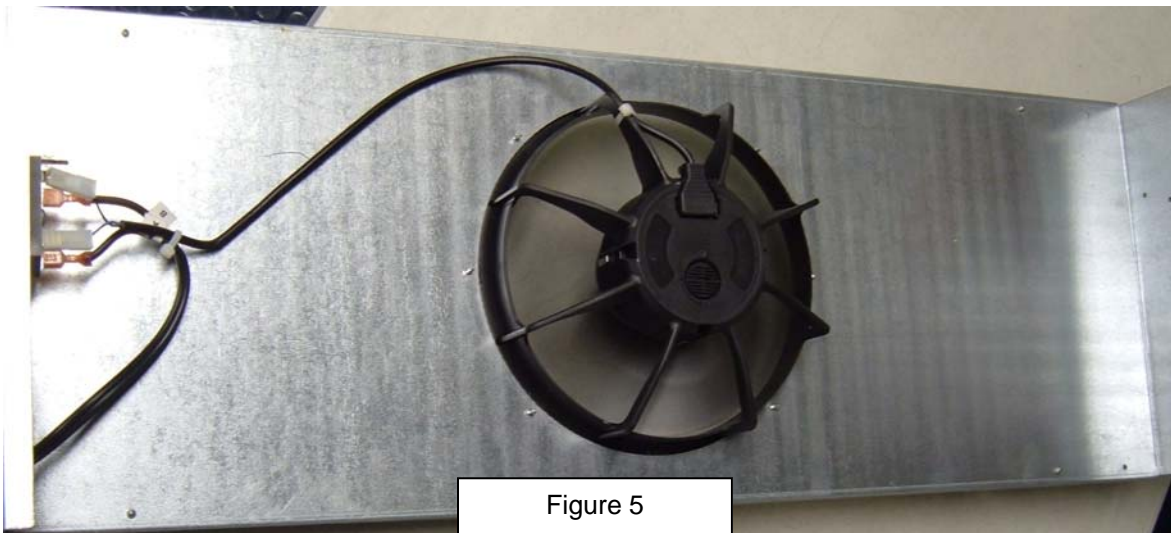

Figure 5
15. Lay the new Evaporator Fan Shroud Assembly on a flat surface as shown in Figure 5.